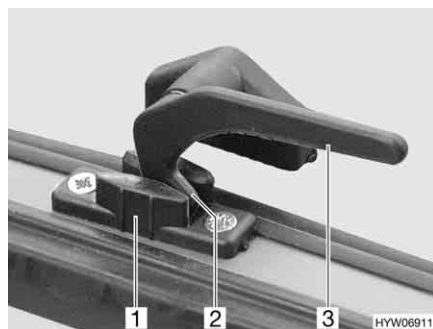

Fig. 84 Catch lever in the "continuous ventilation" position
- "Continuous ventilation" (Fig. 84)
- Turn all catch levers (Fig. 84,3) a quarter turn towards the centre of the skylight.
- Return all catch levers to their initial position. The locking catch (Fig. 84,2) has to be moved into the recess of the skylight lock (Fig. 84,1).